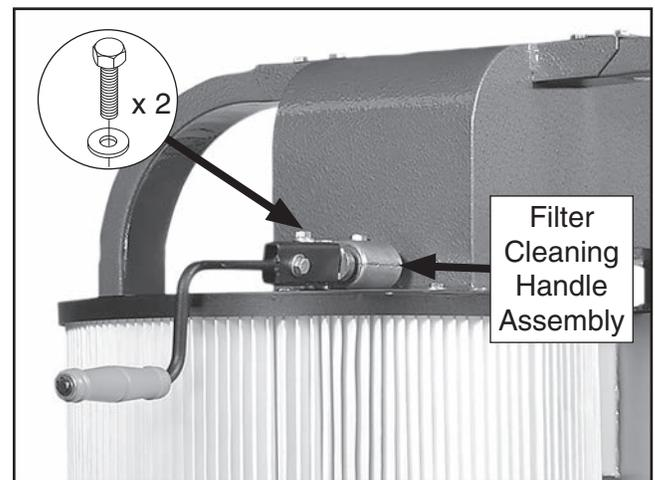

Figure 64. Filter cleaning handle fasteners.
3. Remove (2) 5/16"-18 x 2 1/2" hex bolts securing filter cleaning handle assembly to canister filter, then lift off handle (see **Figure 64**).